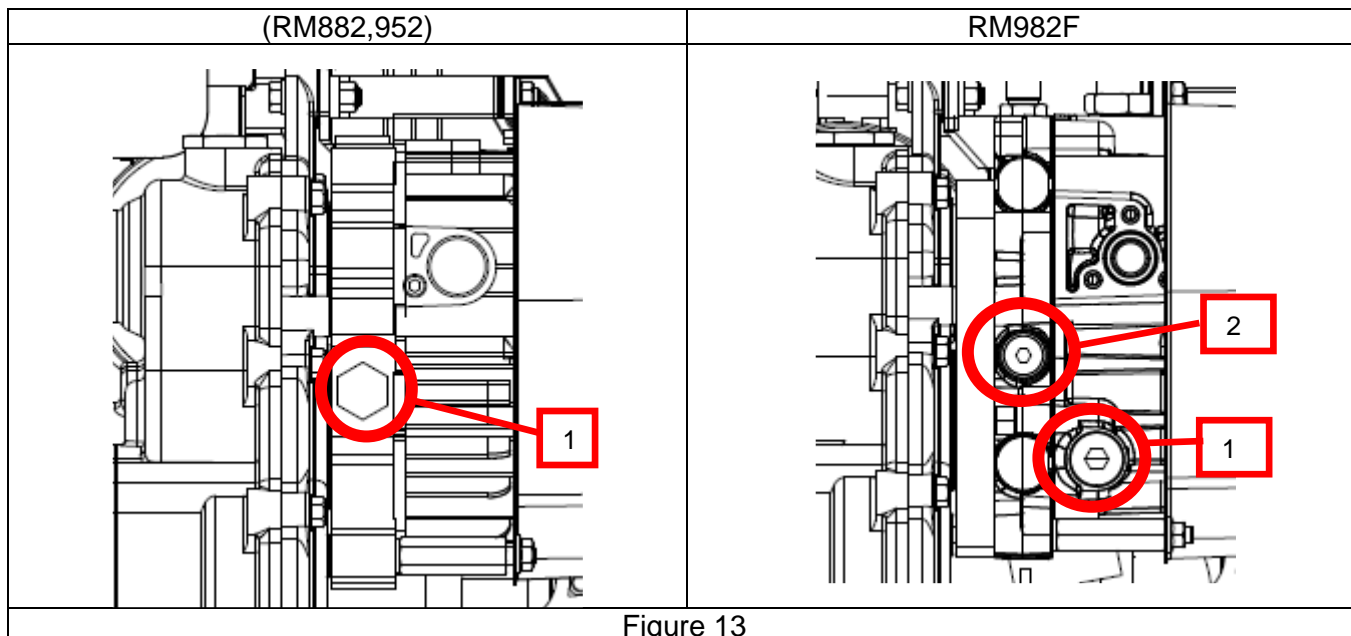
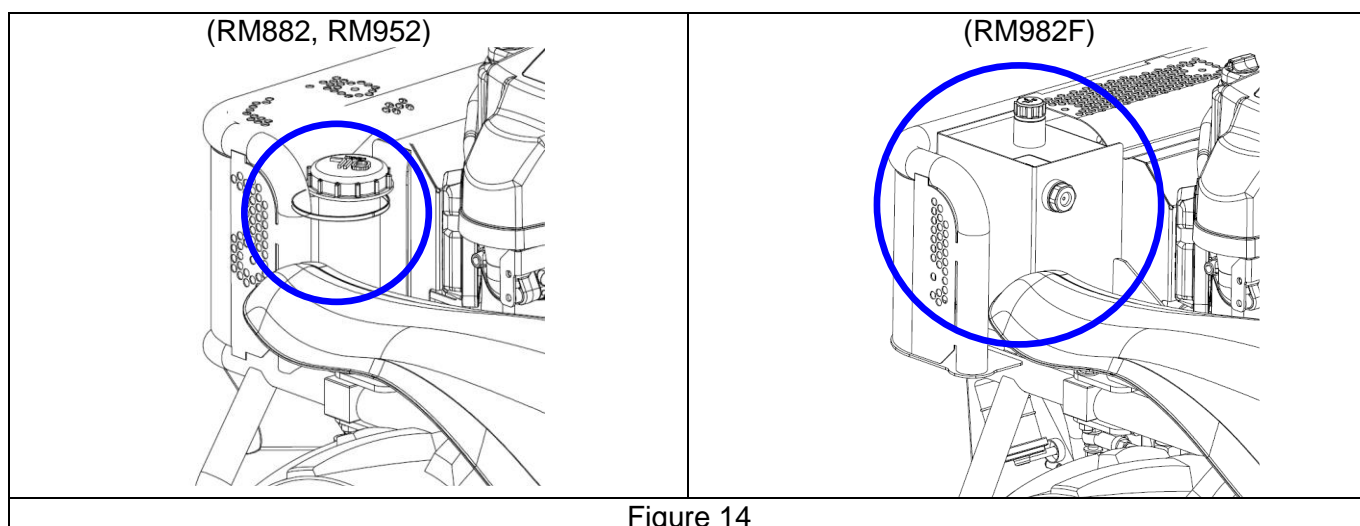

Figure 13
Figure 14
#### HST oil level (Figure 14)
#### Rear HST oil replacement (Figure 13,Figure 14)
1. Place the suitable container below the HST unit to catch the oil, then remove the oil drain plug (1 Figure 13).
Never loose the bolt (2 Figure 13). Otherwise, it might influence for machine driving.
If not, add oil up to "High level position" in oil tank.(figure 14)